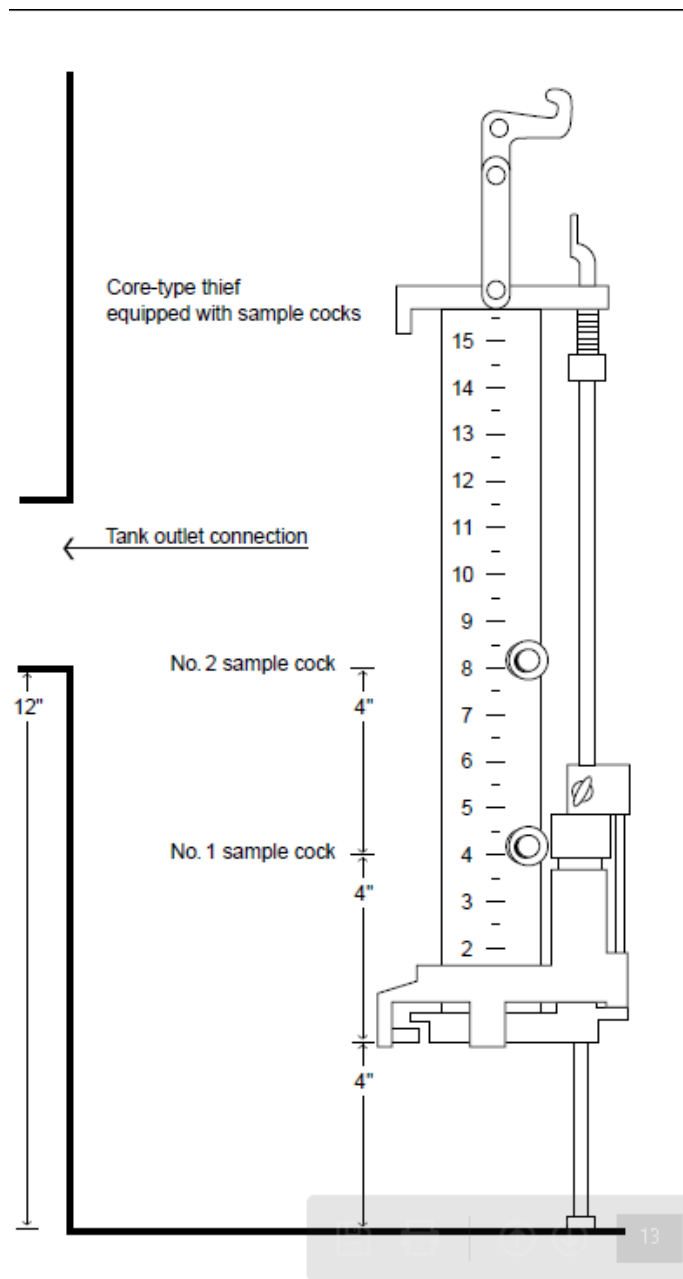

Figure 3
10. Take lower sample from the bottom of the tank contents using a bottom closure modified clear barrel thief with the trip rod extended 4 inches to take the outlet and crude merchantability samples simultaneously. Thief as described is commonly used for a twelve-inch tank outlet only, anything greater or less than twelve inches must be compensated accordingly, see figure 3.